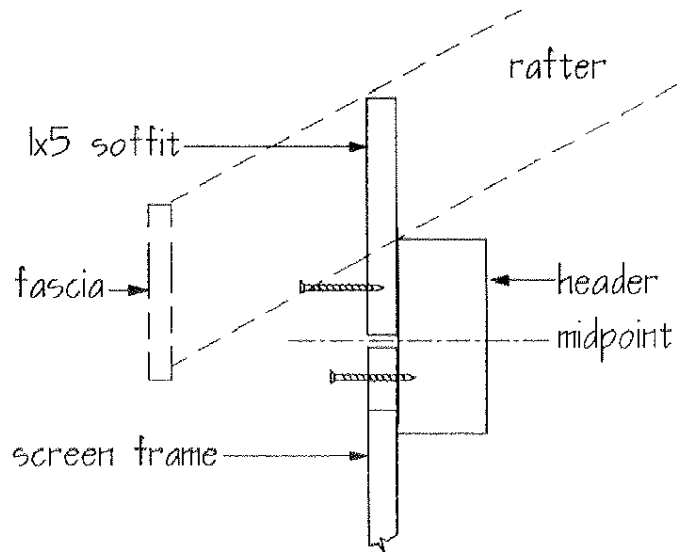

FIGURE F3
2. Each soffit piece should fit snug up against the underside of the roof battens, and between two rafters. When in the right position, the bottom of the soffit board should reach midpoint on the face of the header. When you install the screen frame later, the frame will sit directly beneath the soffits. [See Figure F3].